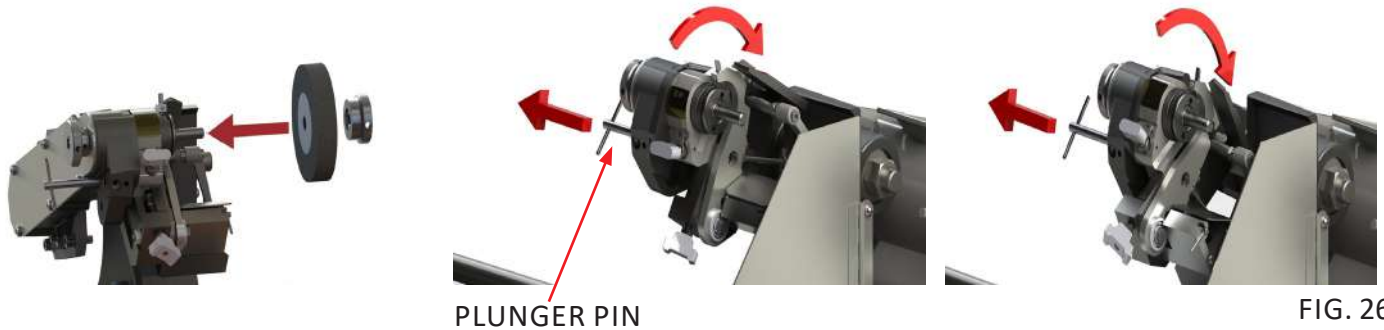

FIG. 26
2. Pull the left side PLUNGER PIN and rotate the FINGER AND BODY ASSEMBLY down (clockwise looking from the right side) to the spin position until the PLUNGER PIN locks into position. See FIG. 26.